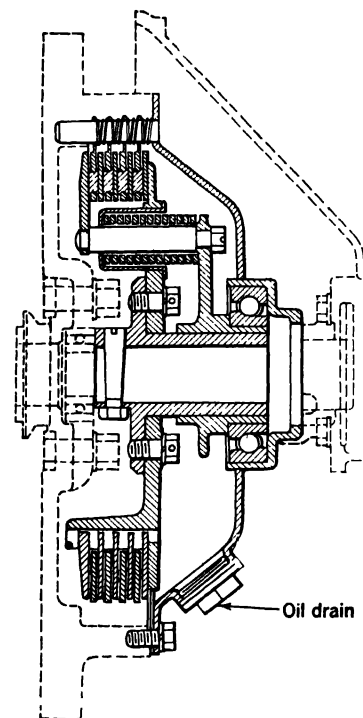

FIG. 42.—Multiple-disk Clutch Running in Oil.
- b. Plates in Oil (Fig. 42).
The multiple-disk clutch running in oil (Fig. 42) is inclosed in an oil-filled case. In most cases the disks are made of steel. A few multiple-disk clutches have been constructed with cork inserts. A slipping clutch of this type is caused in most cases by a weak clutch spring. If it grabs, the clutch spring will be found to be too tight or the oil too thin.